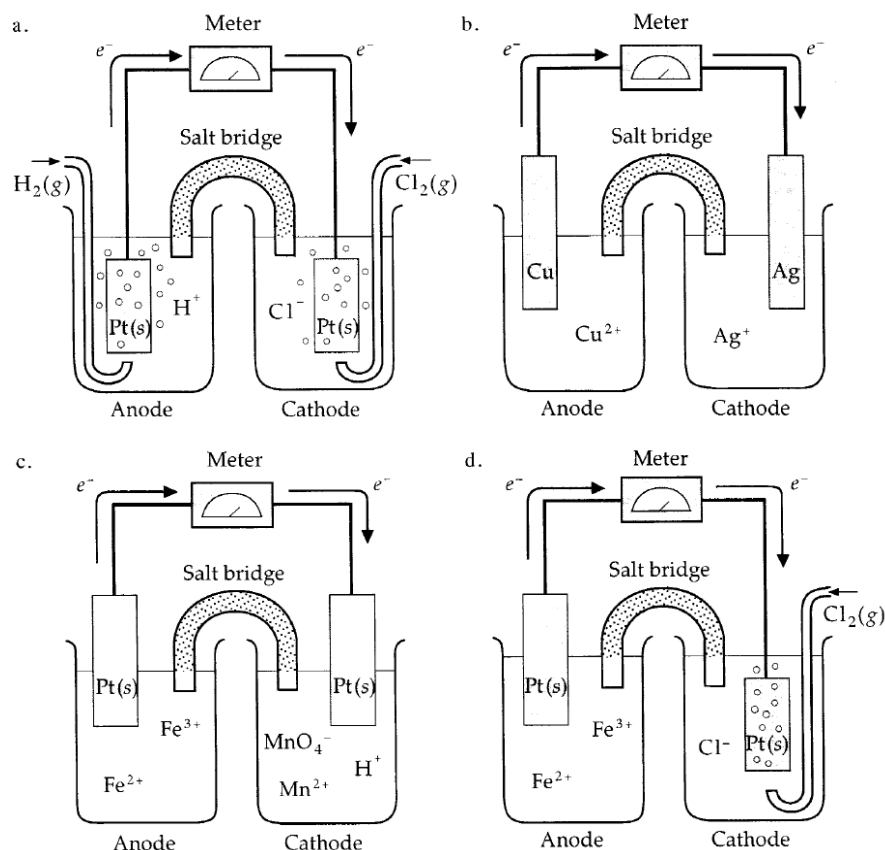

Figure 6.2: Diagrams of galvanic cells.
4. **Inert electrode.** An example of this is the strip of platinum shown as the anode in Figure 6.2(d) in this unit. The actual electrode takes no part in the oxidation or reduction. It provides a surface where electrons can be exchanged between the current and the ions involved.
Solution: See Figure 6.2 in this unit.
Problem: Give the cell notation for each galvanic cell in Figure 6.2 in this unit.